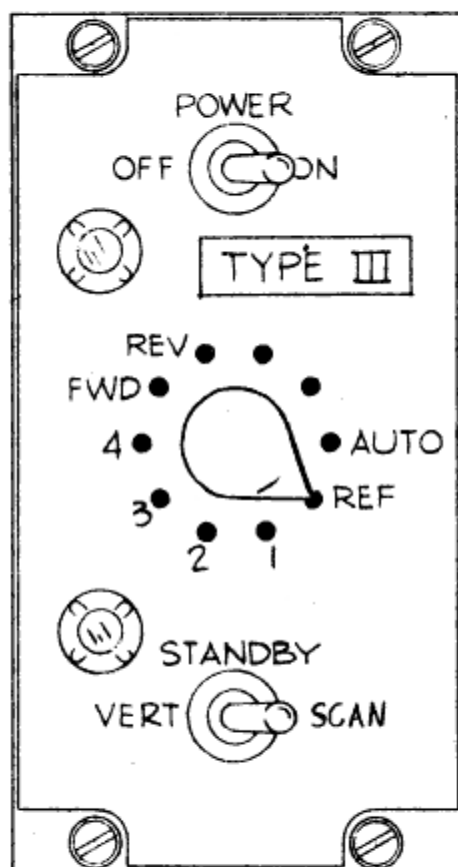

Figure 3-3. Type III Control Panel
- 3-5. The control panel for the Type III package is shown in Figure 3-3. The control panel is located on the left cockpit console, and occupies an area approximately 6 inches by 3 inches.